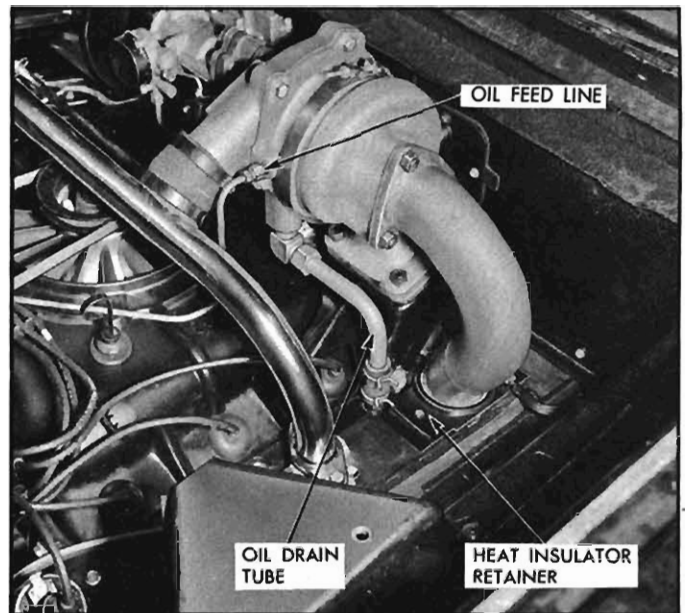

Fig. 9-41—Supercharger Oil Lines
3. Remove supercharger heat shield, then disconnect oil feed line and drain line at supercharger housing (fig. 9-41).